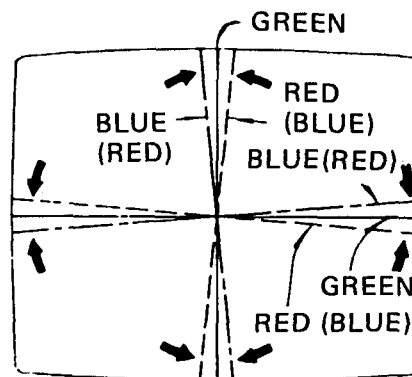

Figure 17
11. Dynamic Convergence (Figs. 17–19)
3. Tilt the deflection yoke up and down. Insert tilt adjustment wedges ① and ② between the deflection yoke and the CRT until the misconvergence illustrated in Figure 17 has been corrected.